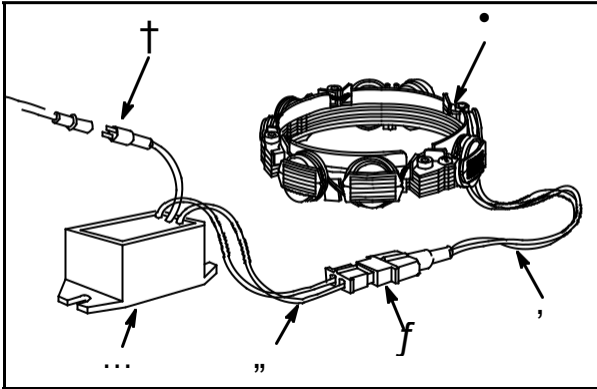

Fig. 26
Stator Assembly (1) – 10 or 16 amp DC regulated system, **Fig. 26**.